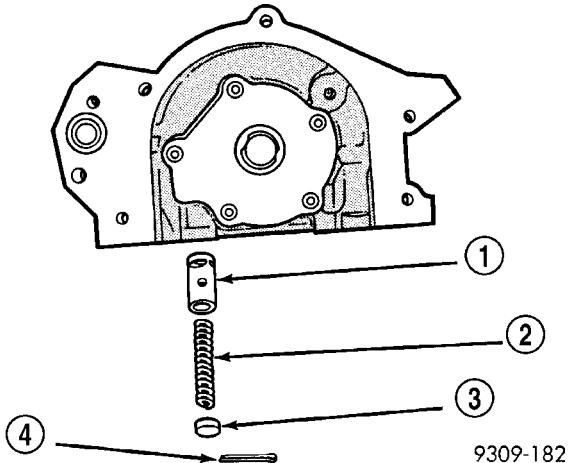

Fig. 107 Oil Pressure Relief Valve
(e) Remove spring and relief valve (Fig. 107).
CAUTION: The pressure relief valve must be installed as shown in (Fig. 107), or engine damage may occur.
(2) Install valve, spring and retainer cap (Fig. 107).
(3) Install new cotter pin.
(4) Install the oil pan. (Refer to 9 - ENGINE/LUBRICATION/OIL PAN - INSTALLATION)